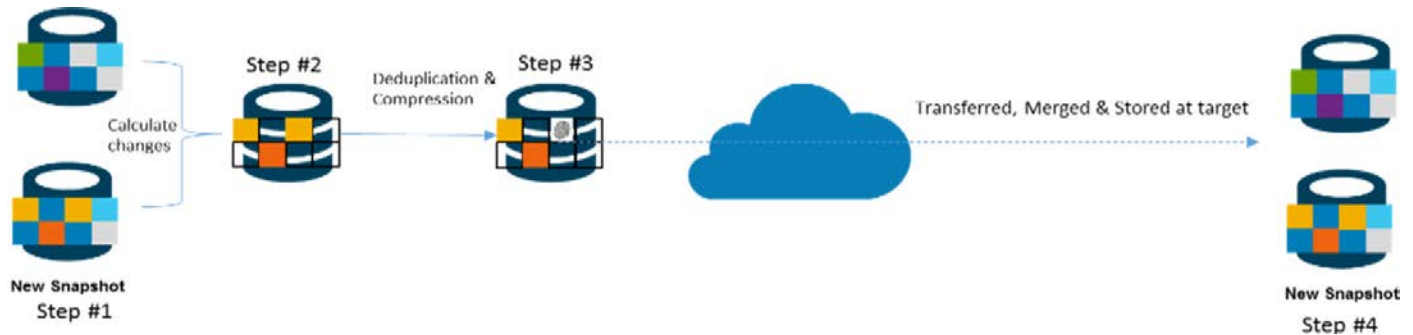

Figure 6. Subsequent Copy Phase
3. On the XtremIO target array, a new snapshot-set is created to which the incoming data is written. When replication of the snapshot-set delta is completed, the snapshot-set that is received from source becomes the latest snapshot at the target array and is available for the DR host. When the snapshot-set becomes available to the DR host, the previous snapshot-set at the source array can be deleted. Figure 6 shows the steps in these subsequent phases: